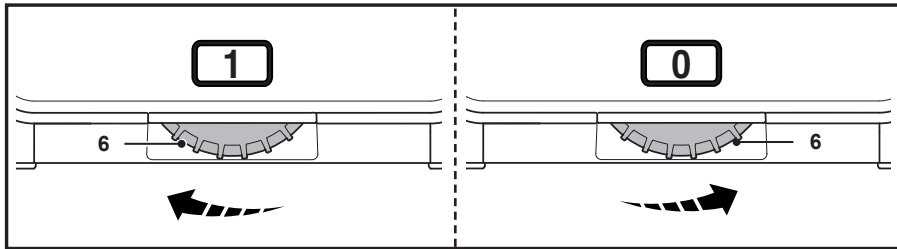

Fig. 8
- Set the power dial (6) to 1 position to start and run the machine (Fig. 8).
- Set the power dial (6) to 0 position to stop the machine (Fig. 8).